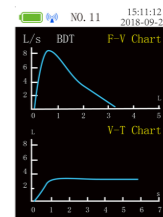

Figure 5 Flow rate-volume chart and Volume-time chart
c. "Flow rate-volume chart" and "Volume-time chart" shown as Figure 5 will appear after pressing UP or DOWN key in Main parameter interface, Figure 4 and Figure 5 are the Main interface.